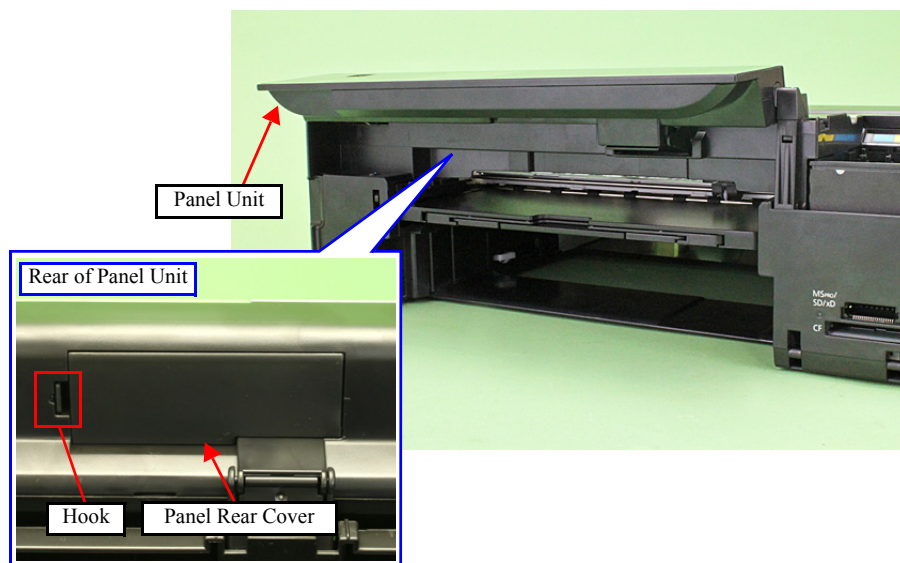

Figure 9-42. Removing the Upper Housing (1)
2. Open the Panel Unit. (See Fig. 9-42.)
2. Open the Panel Unit. (See Fig. 9-42 (p.310).)